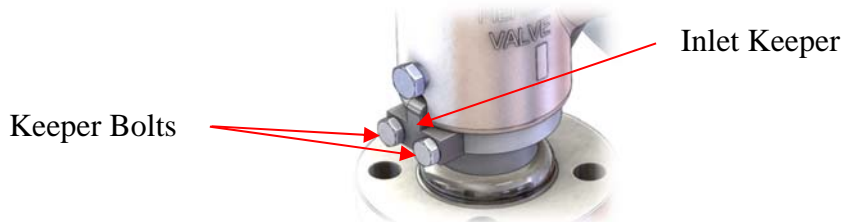

Figure 18: Inlet Keeper
- i) Flanged valves will have a flange keeper that must be removed before the inlet base can be unscrewed. See Figure 18. Remove the flange keeper by unscrewing the keeper bolts first.